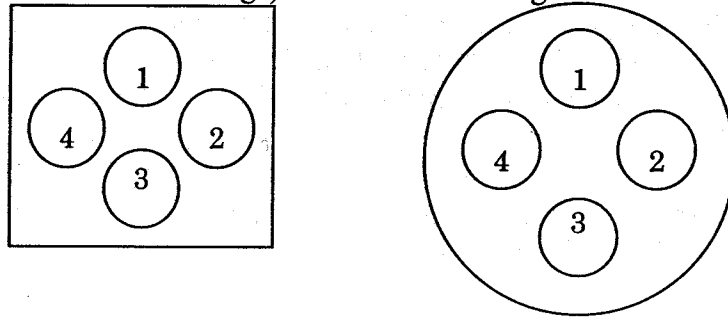

Figure 1
5.3.1 Following the example in Figure 1, place a weight equal to approximately 1/2 the capacity of the TI, on "edge" 1 (place the *single* weight 1/2 the distance between the pan center and the usable edge). Record the reading on the calibration worksheet.